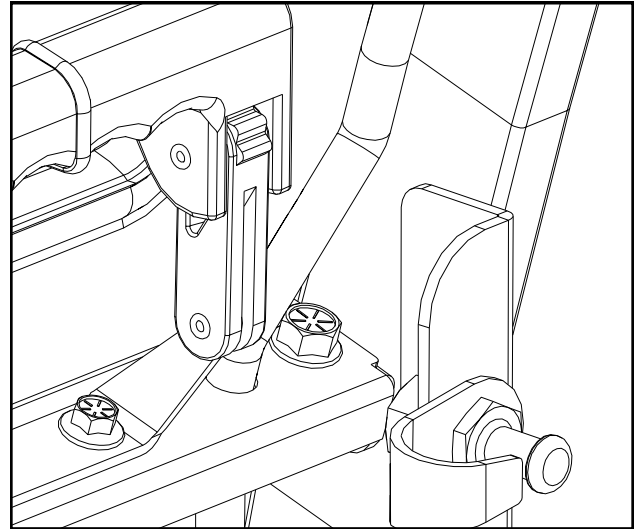

Fig. 17.2b (run wire loom thru cowl - right)
**17.6** Run the wire loom thru the top flange of the cowl and over the switched power wire harness. See figure 17.2b. Cut the wiper harness to length, allowing enough room to connect the wiper harness to the switched power wire harness. Crimp on the (2) female push-on terminals from wiper wiring kit and connect to the switched power wire harness push-on terminals by matching colors.